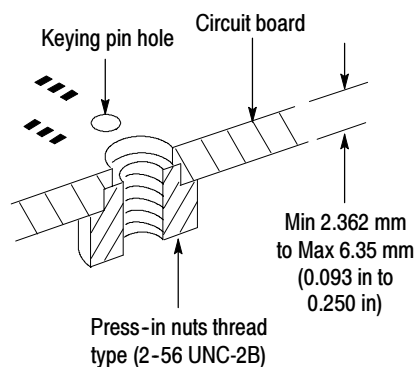

Figure 1-12: Press-in Nuts installation
1. Install the press-in nuts on the PCB by following the Manufacturer's installation procedure. Refer to Figure 1-12 for press-in nut installation details.